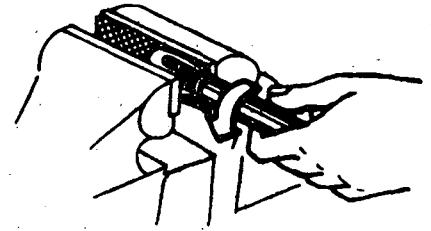

Fig. 6
- a) Screw the stripped end of the hose counter-clockwise into the socket to its limit (Fig. 6).